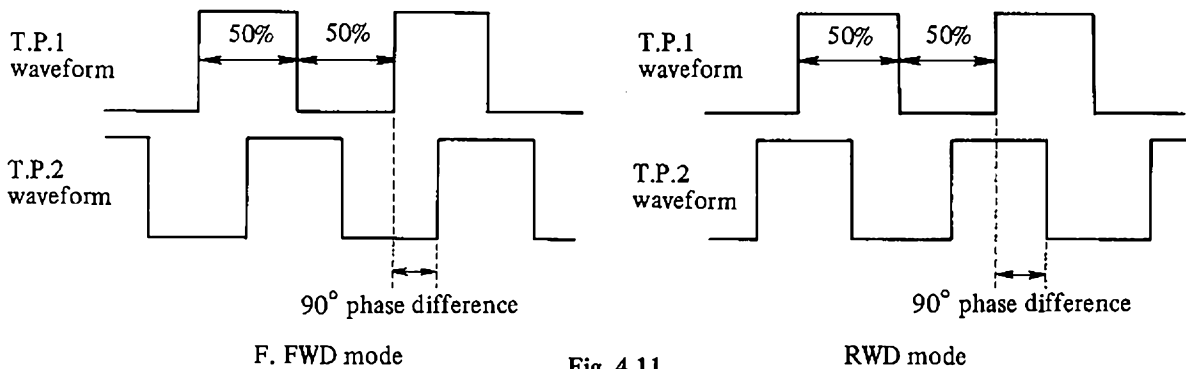

Fig. 4.11
- 2) Rotate the R300 (H) fully CCW from the parts side of the PCB.
- 5) Adjust R302 on the SYSTEM CONTROL PCB for a 50% duty of the testpoint 1 waveform (shown in Fig. 4.11)
- 7) Adjust R303 on the SYSTEM CONTROL PCB for a 50% duty of the test point 2 waveform. (shown in Fig. 4.11)
- 8) Confirm that there is 90° (degree) phase difference between test point 1 waveform and test point 2 wave form during the F. FWD or RWD mode. (shown in Fig. 4.11)